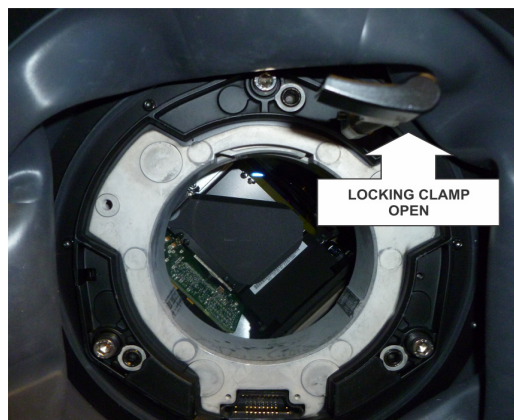

FIGURE 2-1
1. Rotate the lens clamp clockwise to the OPEN position, see Figure 2-1.